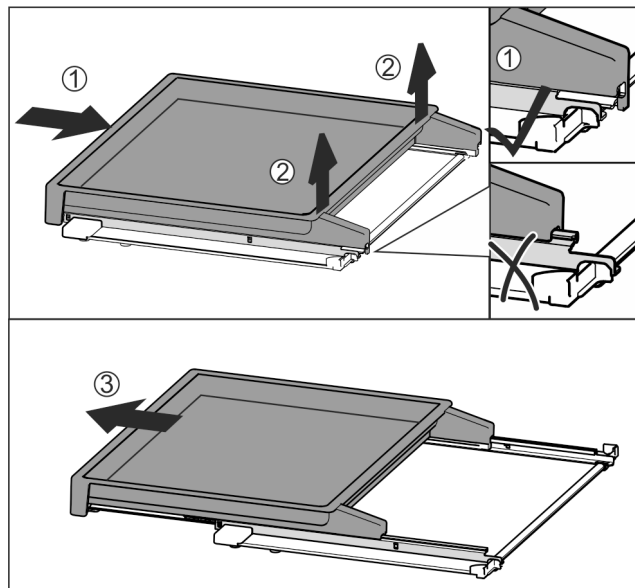

Fig. 112
- ▶ Slide the pull-out board all the way in Fig. 112 (1).
- ▶ Release the clips at the back Fig. 112 (2).
- ▶ Remove the pull-out board from the front Fig. 112 (3).